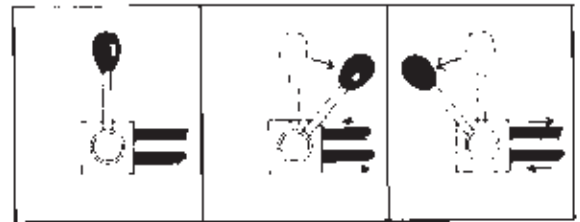

Figure 5
1. Place the valve handle in the neutral position as shown in Figure 5.
3. To advance the cylinder, position the valve handle as shown in Figure 5.